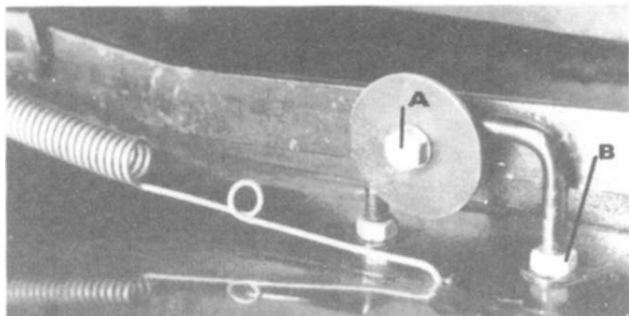

Fig. 12
2. Remove tension springs. A loop has been provided on the spring to assist in this operation; See Fig.12.
4. Undo and remove large retaining bolts (A).
1. Loosen U-Bracket nuts; (B) See Fig. 12.